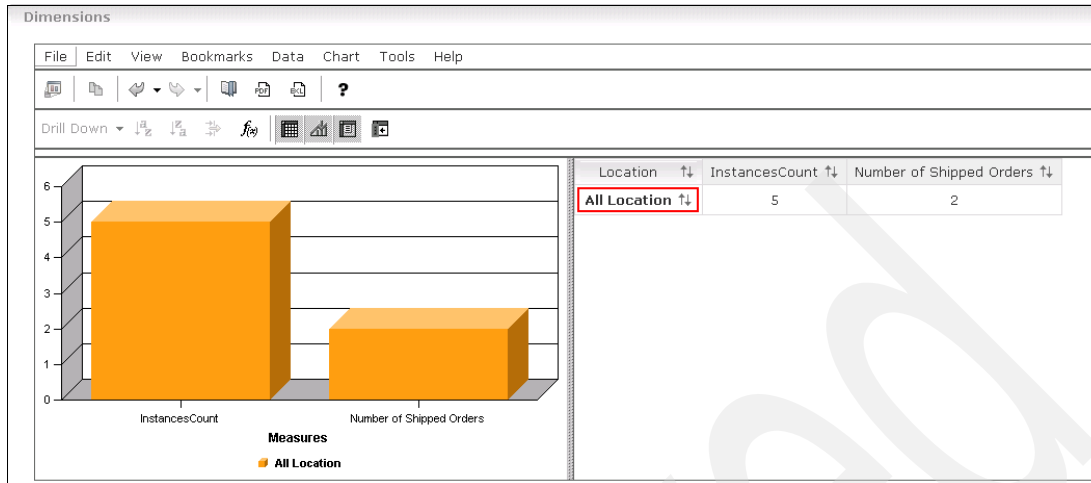

Figure 5-115 Dimensions view
4. The Dimensions view (Figure 5-115) shows the instances count based on location. Double-click **All Location** to drill down on locations.